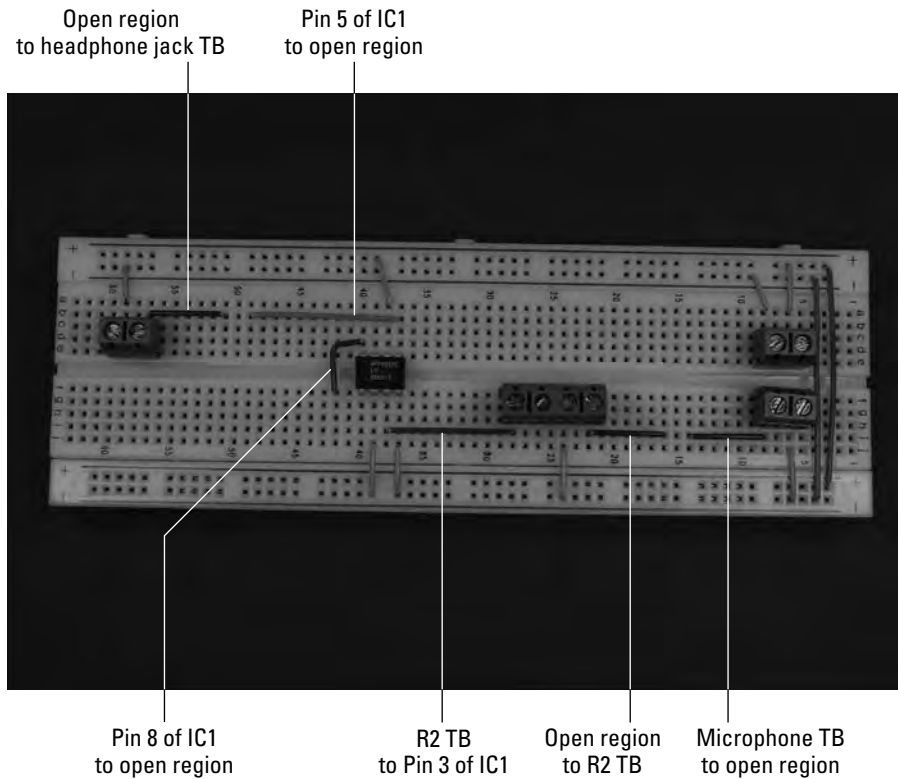

Figure 6-8: Hook up the ICs, terminal blocks, and discrete components.
4. Insert wires to connect the ICs, terminal block for the microphone cartridge, terminal blocks for the potentiometer (R2), terminal block for the headphone jack, and discrete components, as shown in Figure 6-8.